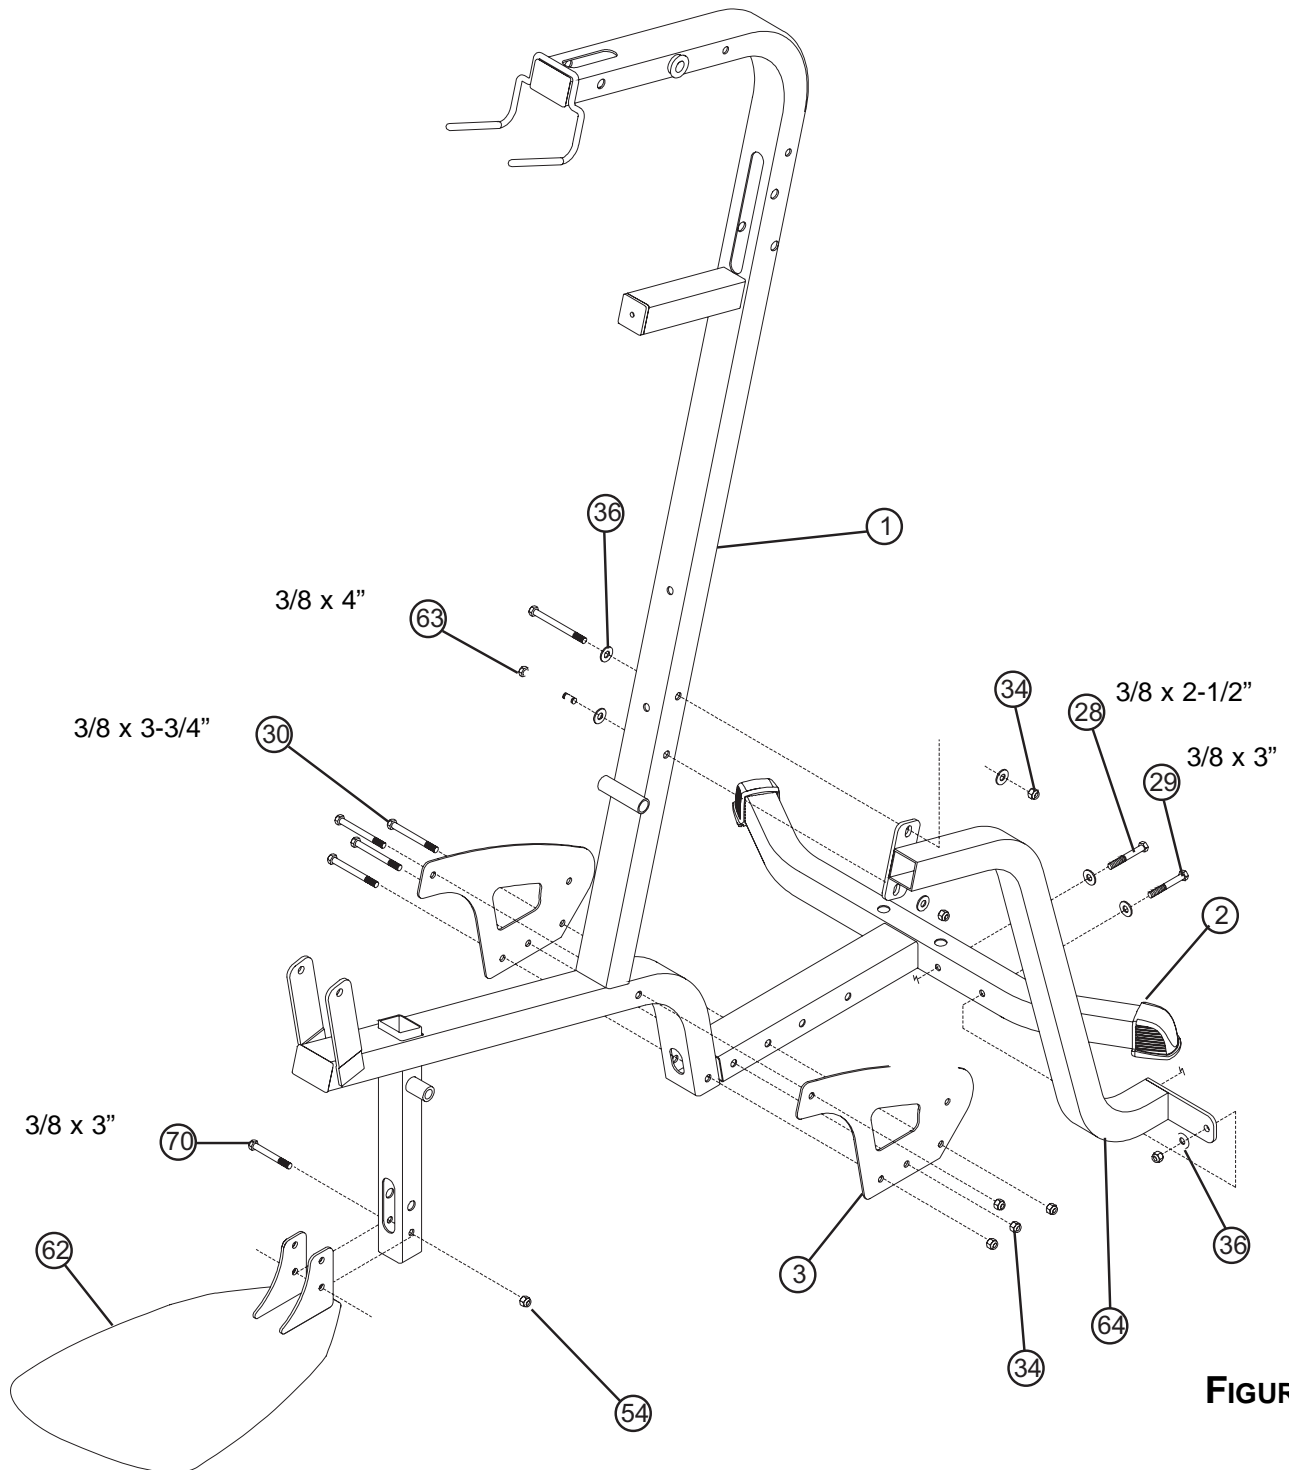

FIGURE 1
- **LOOSELY** assemble two **BASE PLATES (3)** to the **FRAME (1)** and **BASE (2)** using four **3/8 X 3-3/4" BOLTS (30)** and four **3/8" LOCK NUTS (34)**. See **FIGURE 1**.
- **LOOSELY** assemble the **FOOTPLATE (62)** to the lower holes in the **FRAME (1)** using one **3/8 x 3" BLACK BOLT (70)** and one **3/8" BLACK LOCK NUT (54)**.
- **LOOSELY** assemble the **TOP** of the **FRAME BRACE (64)** to the **FRAME (1)** using two **3/8 x 4" BOLTS (63)**, two **3/8" WASHERS (36)** and two **3/8" LOCK NUTS (34)**. Assemble the **BOTTOM** of the **FRAME BRACE (64)** to the **BASE (2)** using one **3/8 x 3" BLACK BOLT (29)**, one **3/8 x 2-1/2" BOLT (28)**, three **3/8" WASHERS (36)** and one **3/8" LOCK NUT (34)**.